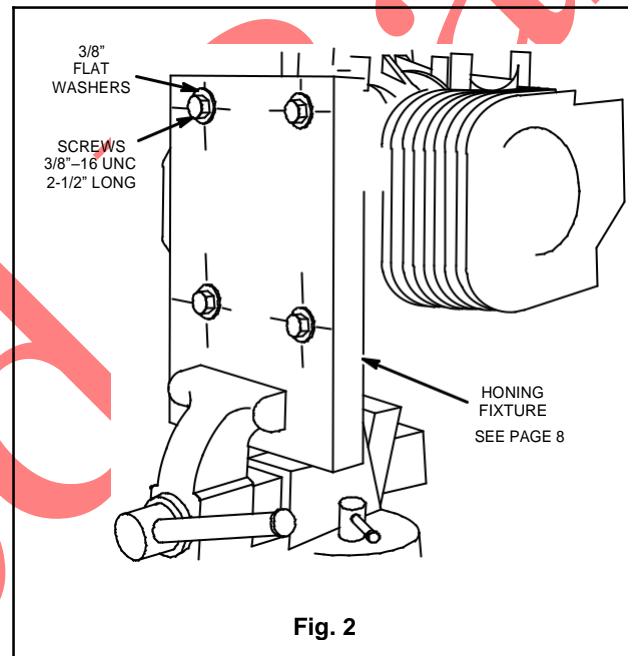

Fig. 2
Use four (4) 2-1/2" long, 3/8"-16 UNC hex head screws with 3/8" flat washers and fasten cylinder to honing fixture, Fig. 2.